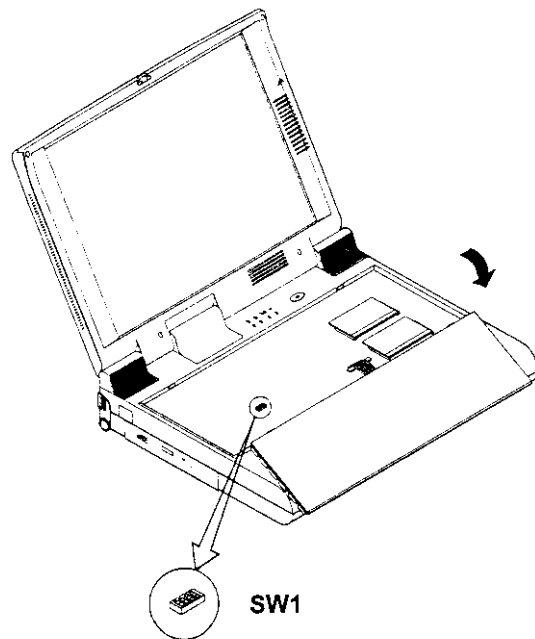

Figure 2-4
3. Carefully lift the keyboard assembly out so that the mainboard is exposed. Locate the DIP Switch SW1 to set the configuration (Figure 2-4).